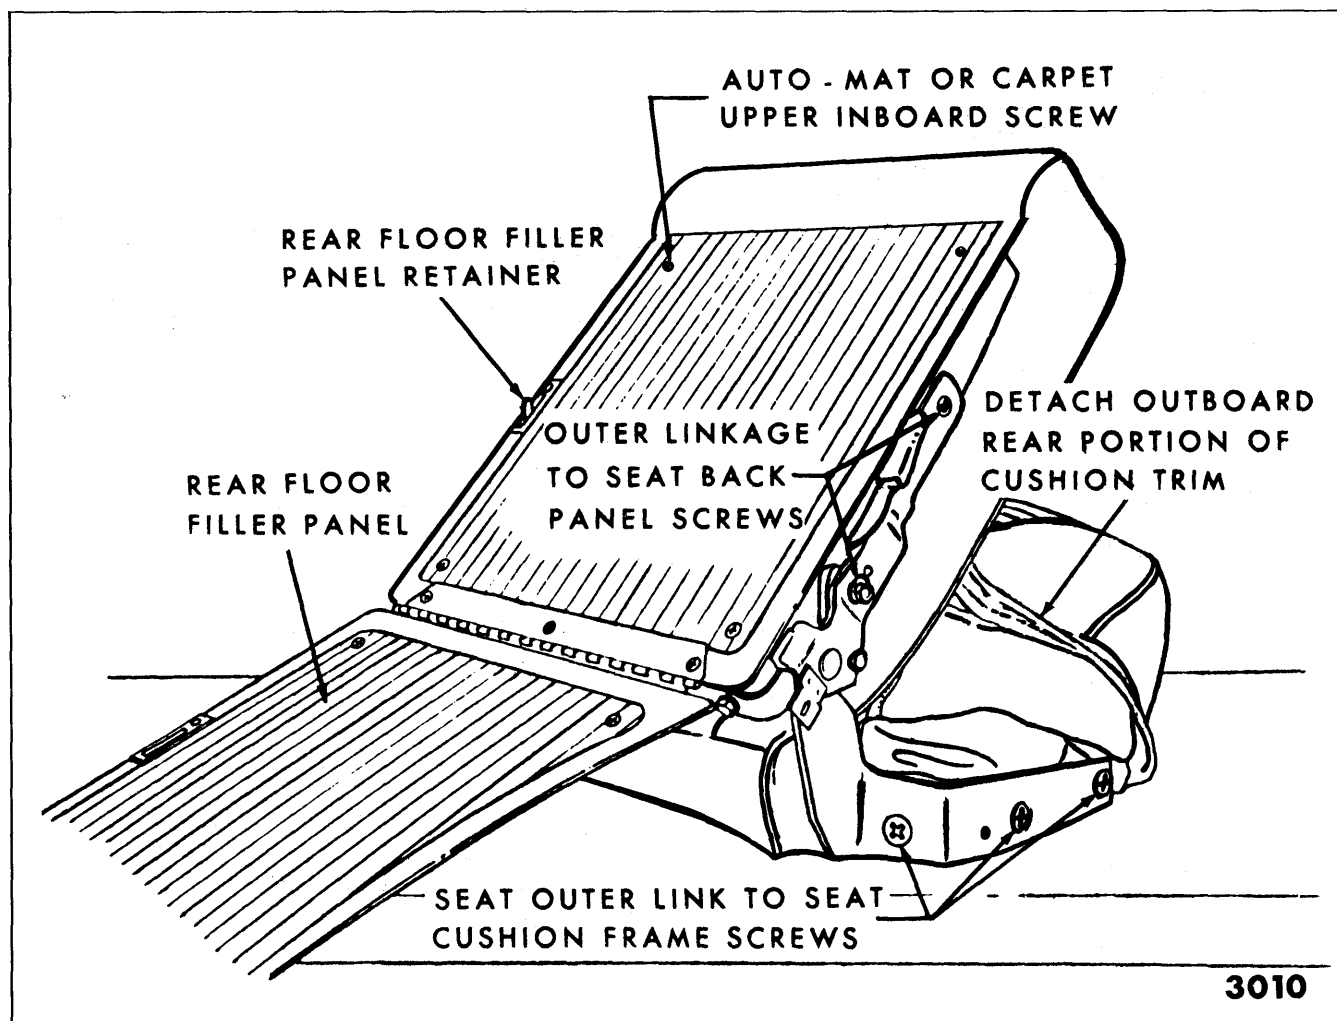

Fig. 15-76—Folding Second Seat Cushion Assembly (Right or Left Side) - "65" Styles
2. Remove hog rings and detach outboard rear portion of trim sufficiently to remove three screws securing seat outer link to cushion frame (Fig. 15-76).
NOTE: If seat back trim does not readily disengage from seat back panel, fold rear floor filler panel down and remove upper inboard screw securing automat or carpet (Fig. 15-76). Then remove seat back trim assembly.
3. Remove hog rings and detach rear portion of trim sufficiently to remove three screws securing outer linkage to seat cushion frame. (See Fig. 15-76.)
4. Remove outer linkage-to-seat back panel attaching screws (See Fig. 15-76); then, remove linkage and seat back catch from seat.
2. Remove outer linkage-to-seat back panel attaching screws (See Fig. 15-76).
3. Install lock handle attaching screw; then, install outer linkage to seat back panel attaching screws (Fig. 15-76).